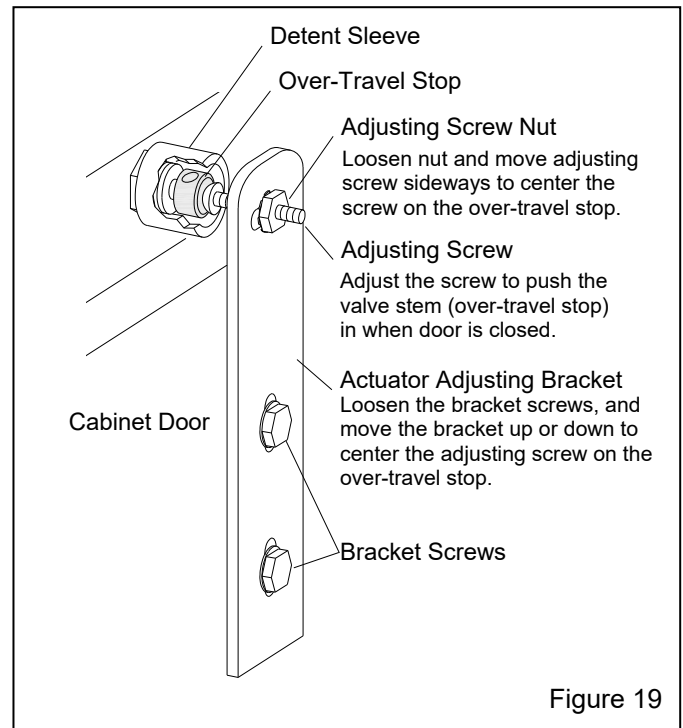

Figure 19
5.5 Door Interlocks – Figure 19